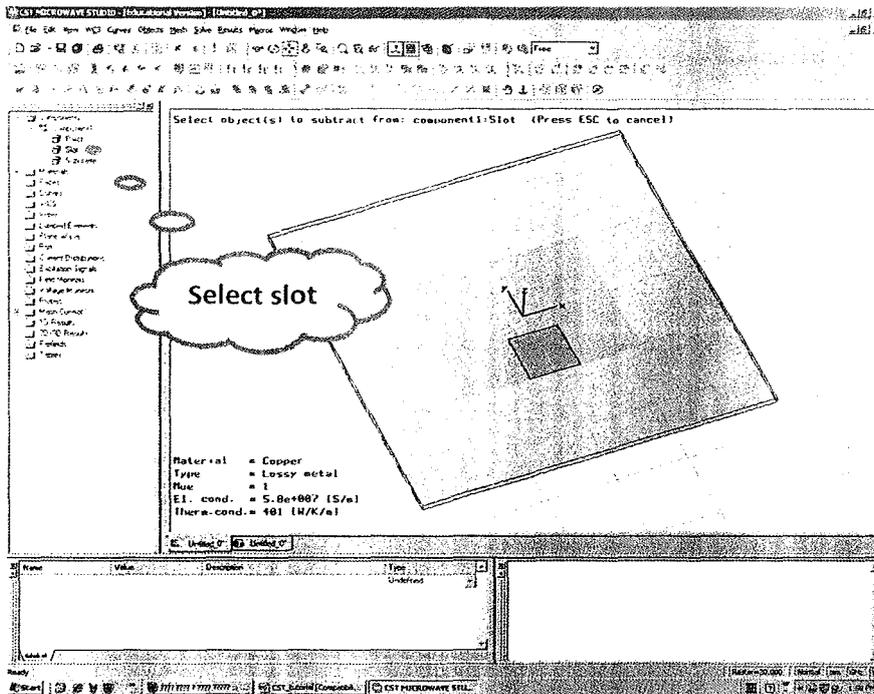

Fig. 13 Cutting the inset feed slot from the patch (d)
- d. Now, click on slot and press enter key, see Fig. 13